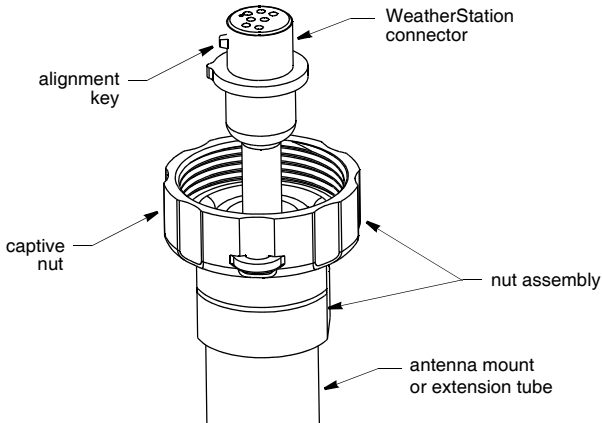

Figure 5. Attaching the cable to the WeatherStation Instrument
1. With the nut assembly on the cable near the WeatherStation connector, thread the cable through the extension tube (if used), antenna mount, and the cable exit. *Be sure to leave several inches of cable extending beyond the nut assembly (see Figure 5).*